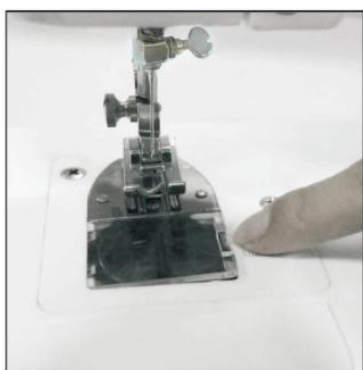

Fig.7
- 1) Slide the bobbin cover button to the right and remove the bobbin cover (Fig.7).